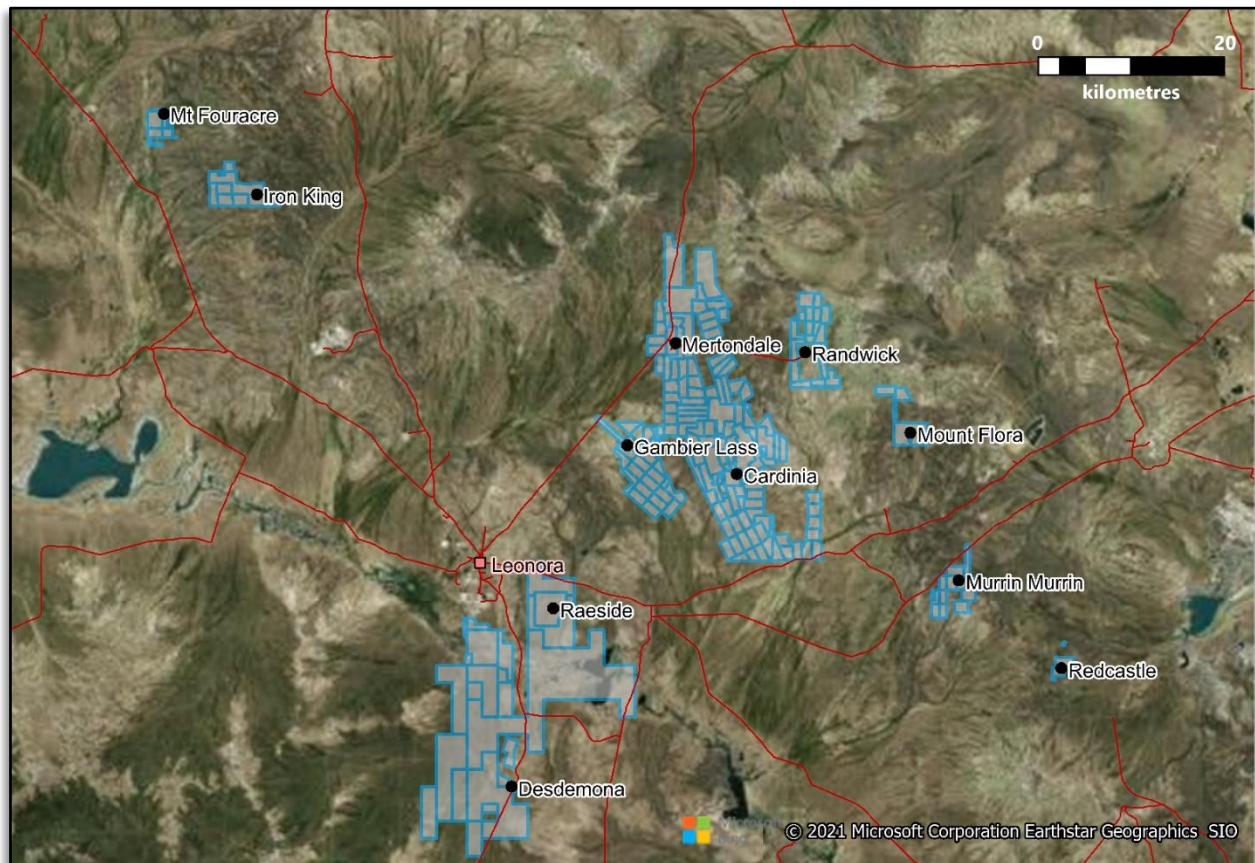

Figure 1 – Kin Mining's regional project areas close to Leonora, Western Australia.
Kin owns six separate projects located east and west of the centrally located CGP (Figure 1) which the Company has been advancing with a range of exploration activities over the past 12 months including ground-based geophysical surveys, surface auger soil geochemical surveys and first-pass air-core (AC) drilling programs to evaluate their prospectivity.